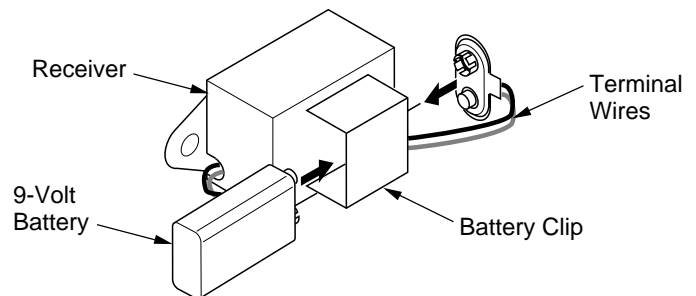

Figure 37 - Installing Battery in Receiver
- Install battery into receiver battery clip and connect to terminals (see Figure 37).